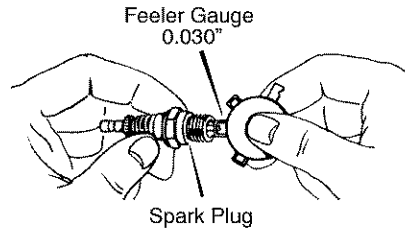

Figure 17
2. Check the **spark plug** gap with a **feeler gauge** and reset gap to 0.30" if necessary. See Figure 17.